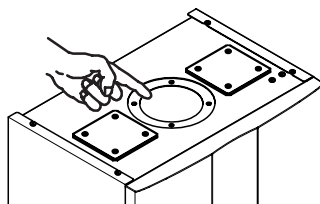

Fig. 7.7
**Fill the built-in condensate trap by removing the flue elbow and pouring a cupful of water into the flue outlet (Fig. 7.7).**